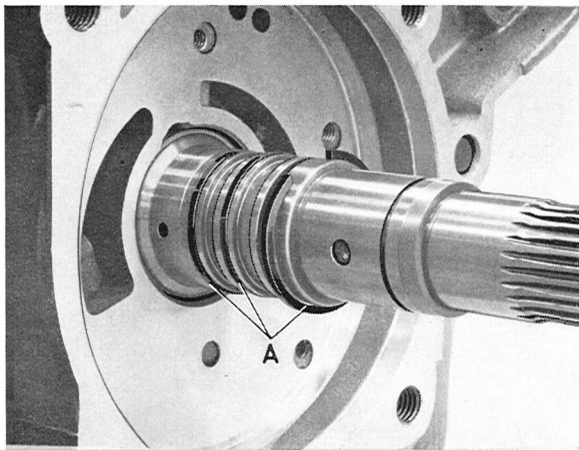

Fig. 4-106. Installation of oil rings on driven shafts
4. Install the three oil seal rings on the shaft, see Fig. 4-106. Exercise care when doing this as the oil seal rings are very fragile. Stand the box on its front end and support under the shaft. Center the oil rings. The oil deflector is then installed.